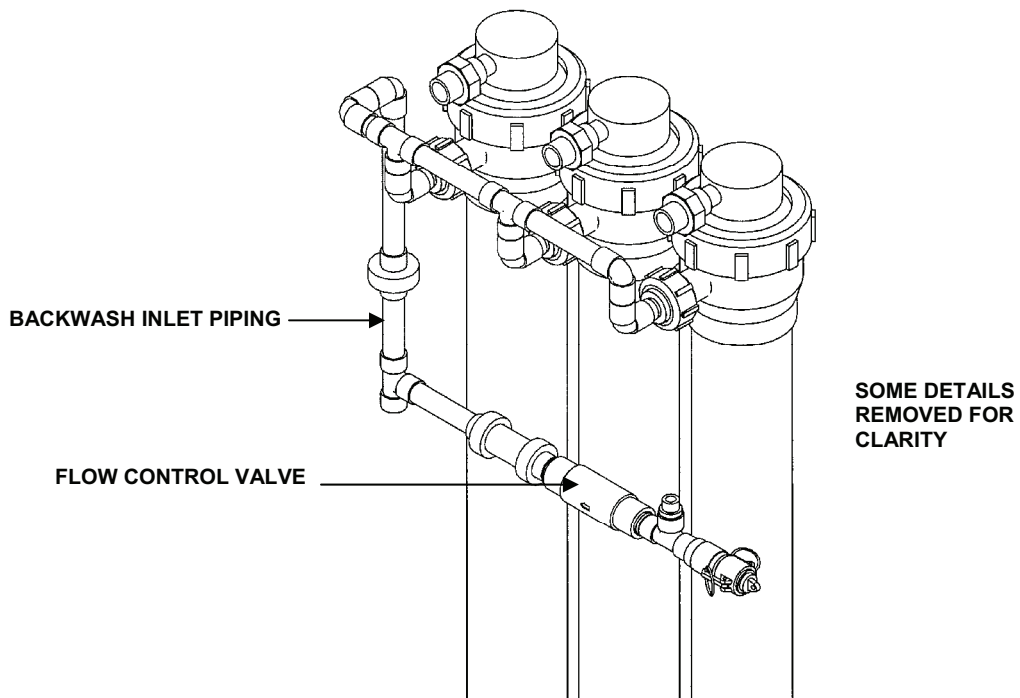

Figure 3. Backwash Inlet Piping.
The flow controller (8 GPM) is located in the backwash inlet piping. See Figure 3.
2. Remove nuts (Figure 3, item 6), washers (Figure 3, item 5), and U-bolt (Figure 3, item 4).
3. Remove pressure indicator tubing from the top branch of the tee fitting (Figure 3, item 3). Remove tee fitting (Figure 3, item 3).
4. Remove flow controller (Figure 3, item 7) from the check valve (Figure 3, item 9) by loosening at the union (Figure 3, item 8).